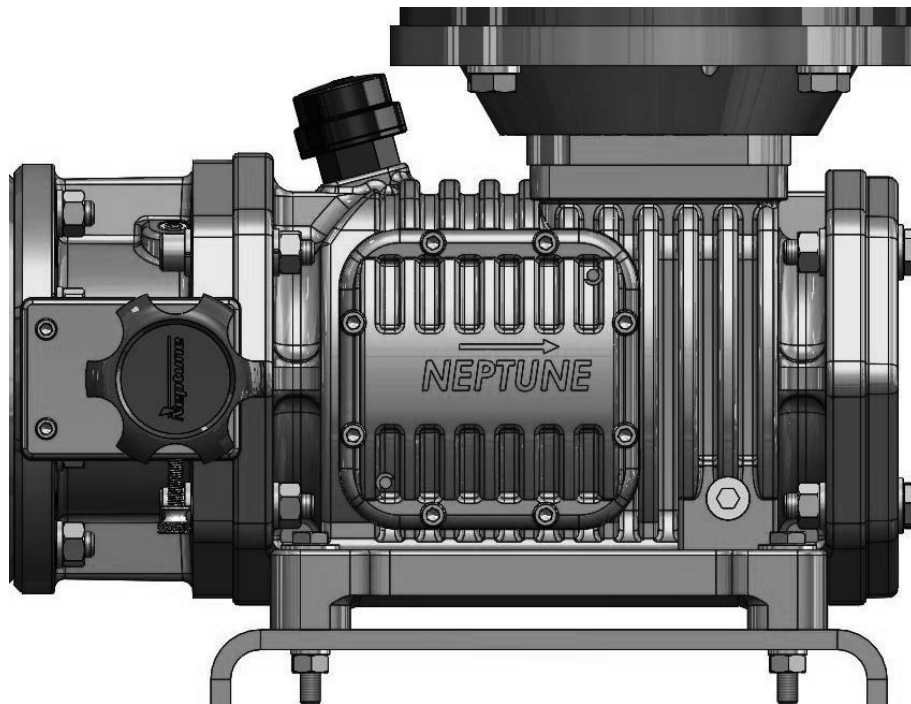

FIGURE 1
1.0.6 The electrical supply to the pump must match the motor nameplate characteristics. The motor rotation is counterclockwise when viewed from the top of the motor or looking down on the pump. An arrow mark on the side cover of the gearbox is indicating the correct rotation (Figure 1).